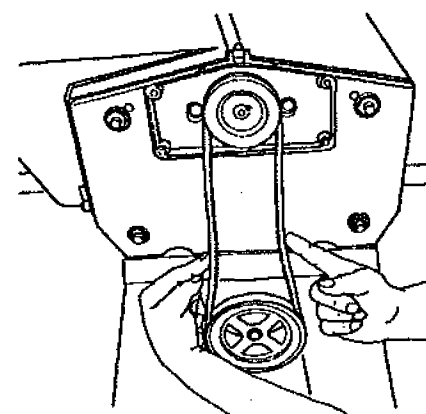

Fig. 37
46. Test the belt's tension, as shown in Fig. 37. The belt should flex about 1/2".